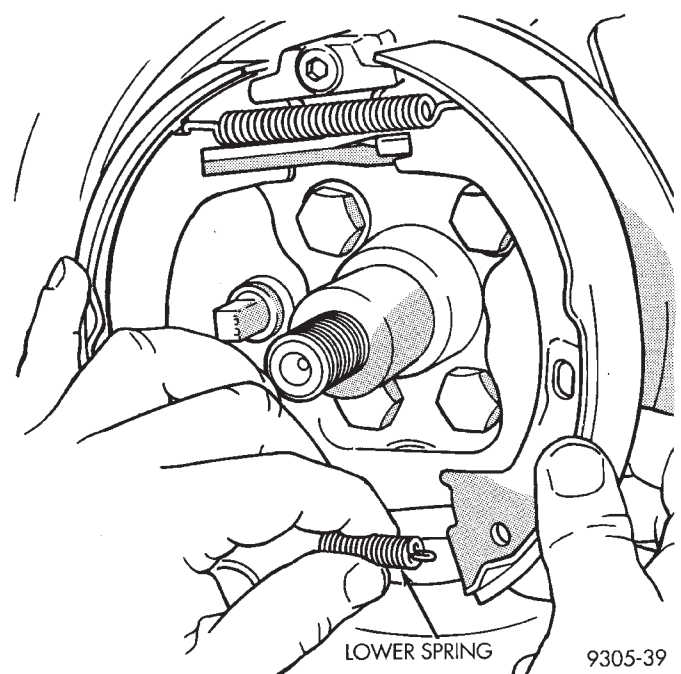

Fig. 7 Installing Lower Spring
(1) By hand, initially install the ball joint seal on the lower control arm.
(2) Lower control arm is to be supported using a 1 1/4 inch socket (Fig. 7). Position the 1 1/4 inch socket, lower control arm and Seal Installer, Special Tool MB-990800 in an arbor press (Fig. 7).
(3) Using Installer, Special Tool MB-990800, press seal onto ball joint housing until it is squarely seated against top surface of control arm (Fig. 7).
(4) Install lower parking brake, shoe to shoe return spring (Fig. 7).